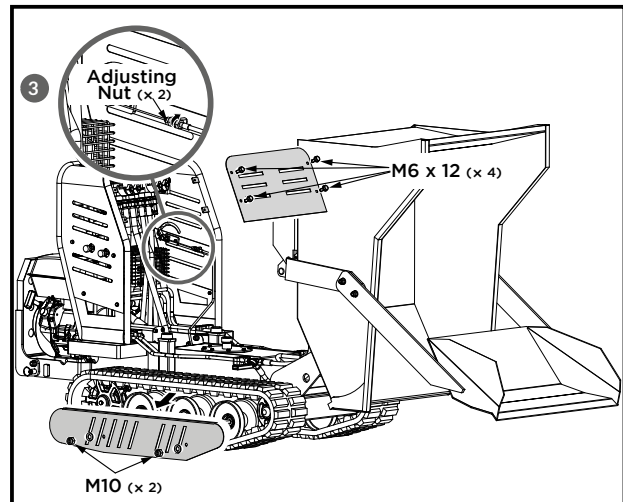

Figure 25
5. Screw the two adjusting nuts in the direction shown in figure 25 (3) and observe the parking axle from both sides until both axles are over 2 mm from the side of driving wheels. Tighten the adjusting nuts.